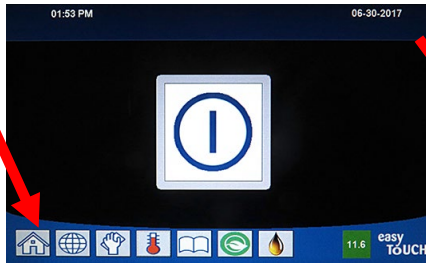

Figure 36
- WAIT FIVE (5) MINUTES** before proceeding to the next step.
- Press the **"HOME"** button on the (see Figure 36).
9. Press the “HOME” button (see Figure 36) when finished.